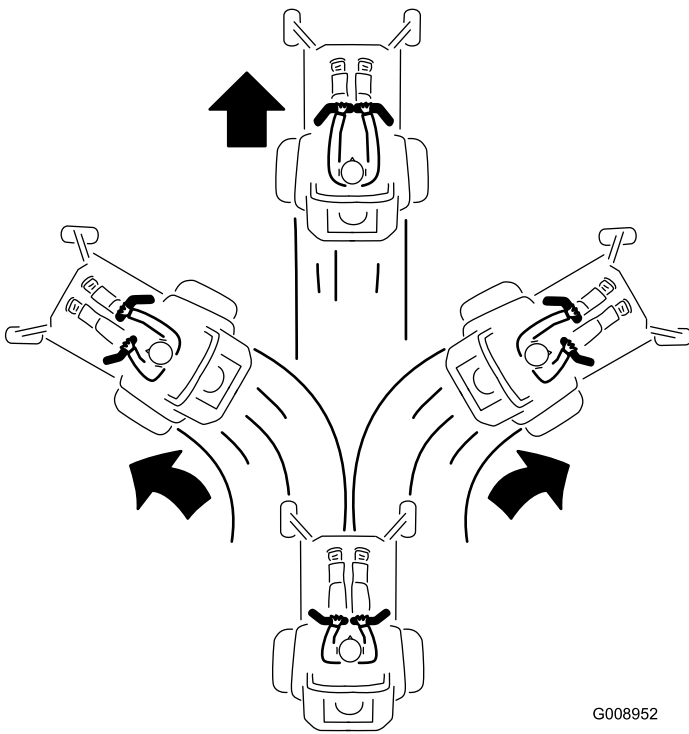

Figure 24
3. To go forward, slowly push the motion control levers forward (Figure 24).